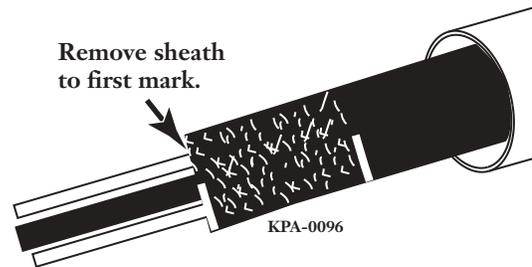

Figure 4
**Step 6** Remove the cable sheath to the first mark (Figure 4).